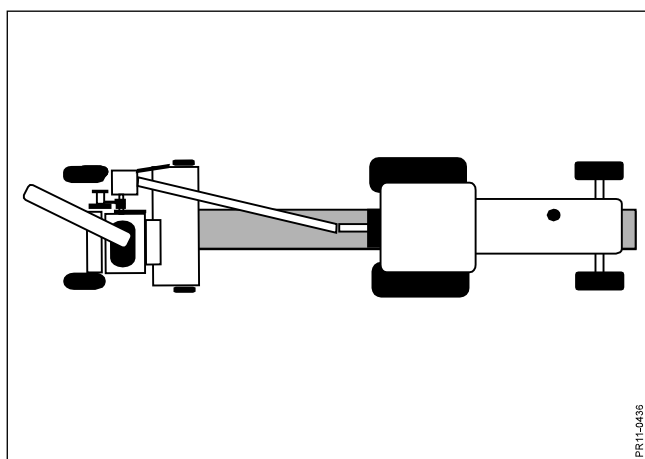

Fig. 6-11
- Fig. 6-11** 3) The forage harvester is working in an in-line position, as the tractor is being driven over the lying swath. This technique is naturally best suited to harvesting individual swaths, as the operation of the tractor in the crop is avoided. The technique is still suitable for loading on both sides and brings the tractors close to each other.
The maximum angle that a PTO shaft may work with is 20°. It is recommended that the drawbar be placed in the transport position before turning sharply to the right, or into the position corresponding to working in-line (see Fig. 6-11).